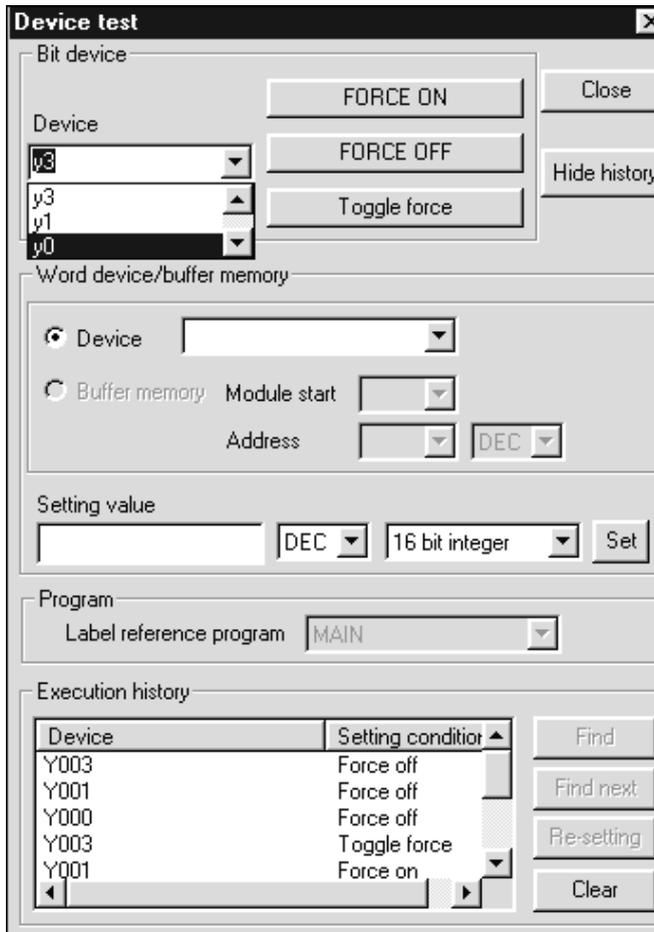

Figure 8.8
1. Check the Execution history display to confirm that all of the outputs, which were forced ON, have now been forced OFF (Figure 8.8).